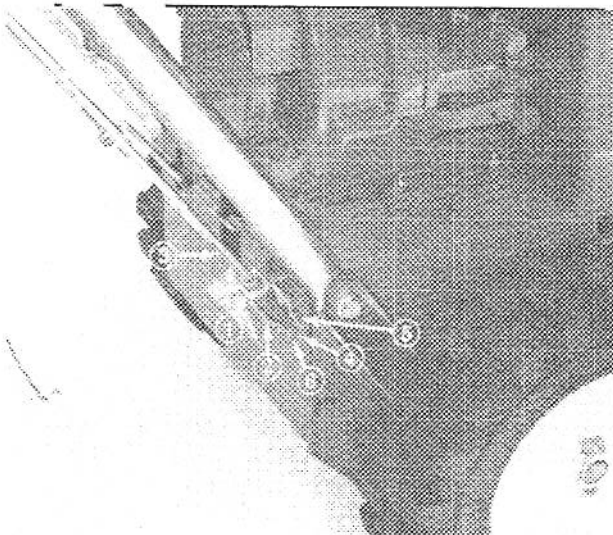

Figure 7
5. After adjusted, install clevis pin and secure with cotter pin. Tighten jam nut to secure clevis (Fig. 7).
1. Loosen jam nut above clevis on upper control rod (Fig. 7).
2. Align holes in clevis and lower control rod, install with clevis pin (Fig. 7).